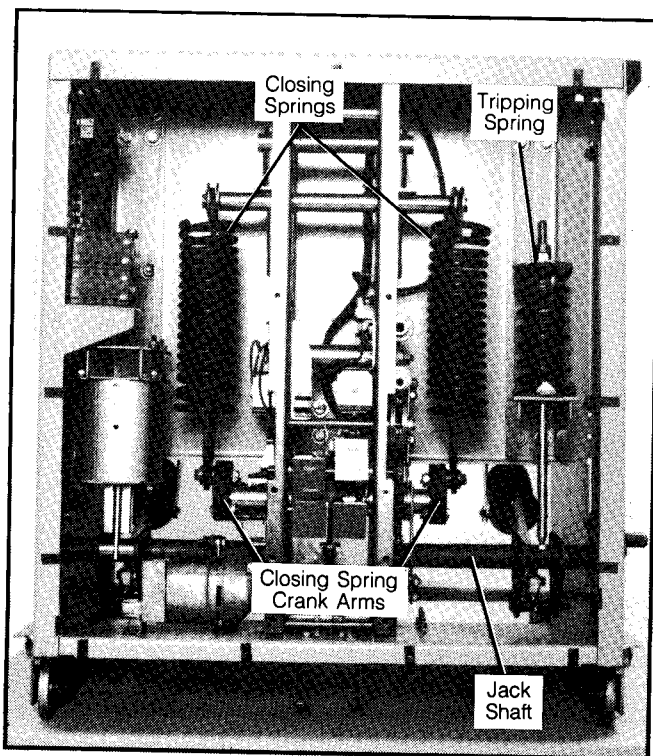

Figure 19. Closing and Tripping Springs.
charge the closing springs. The drive cam (20), the closing spring crank arms (see Figure 19) and spring condition indicator cam (18) are directly keyed to the main cam shaft (3). The main cam shaft rotates counterclockwise. The clos-
The stored energy assembly consists of two dual closing springs and a single tripping spring. **Figure 19** shows the three springs and their linkages to the charging devices. The two closing springs are connected to crank arms mounted on the rotating main cam shaft. The closing springs are extended, and charged, by rotation of the crank arms connected to the movable ends of the springs. The fixed ends of these springs are attached to a support arm, which in turn is bolted to the structure of the circuit breaker.